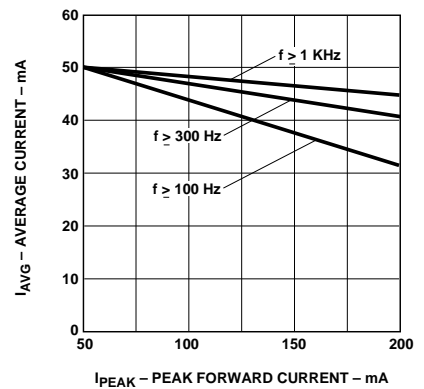

Figure 5. Maximum Average Current vs. Peak Forward Current.
2. Refer to Figure 5 to establish pulsed operating conditions.